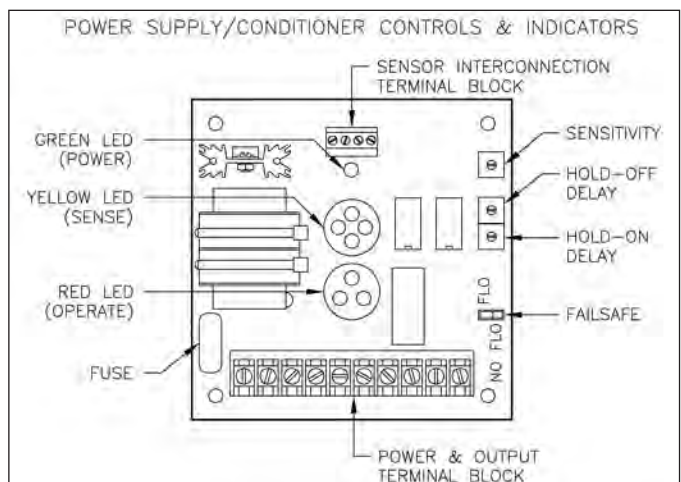

Figure 12
**POWER SUPPLY/CONDITIONER** (See Figure 12)